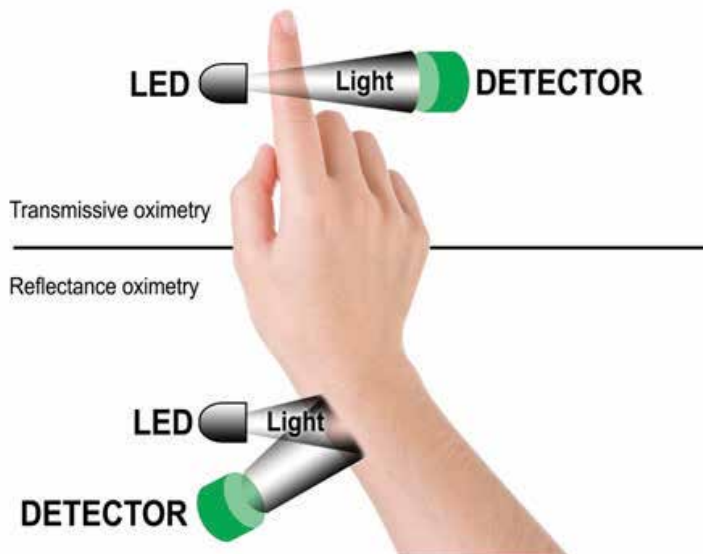

Figure 1: Two Oximetry methods
about hemoglobin is how it reflects and absorbs light. For example, Hb absorbs more (and reflects less) visible red light. HbO₂ absorbs more (and reflects less) infrared light. Since blood oxygen saturation can be determined by comparing the values of Hb and HbO₂, one method for doing this is shining both a red LED and an infrared LED through a body part (such as a finger or wrist), and then comparing their relative intensities. There are two common methods of doing this: (1) measuring the light transmitted through tissue is called transmissive oximetry, and (2) measuring the light reflected by tissue is called reflectance oximetry (See Figure 1).